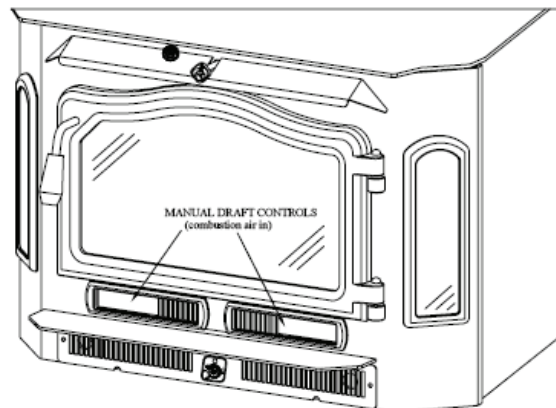

FIGURE 13: MODEL BBF MANUAL DRAFT CONTROL
- a. **Model BBF Manual Draft Control Slides:** Refer to FIGURE 13 for the location of the two manual draft control slides on these models.